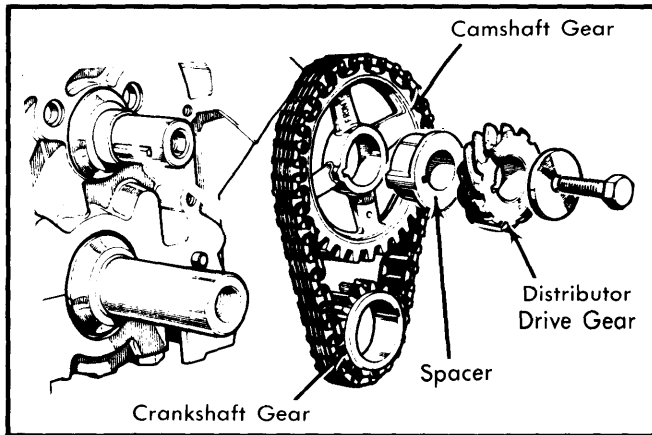

Fig. 9 Timing Chain and Gear Assembly
**Removal** — With timing cover removed and No. 1 piston at TDC, remove distributor drive gear. See Fig. 9. Remove spacer and both gears with chain, keeping components assembled.